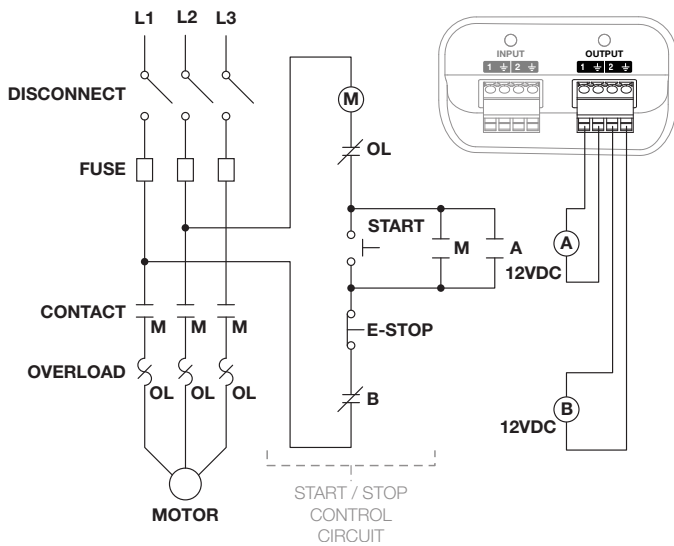

Figure 1.
- Figure 1 shows a typical latching Start/Stop circuit interfaced with a C3. Relays A and B are added as shown to allow remote control. All other components in the figure are existing.